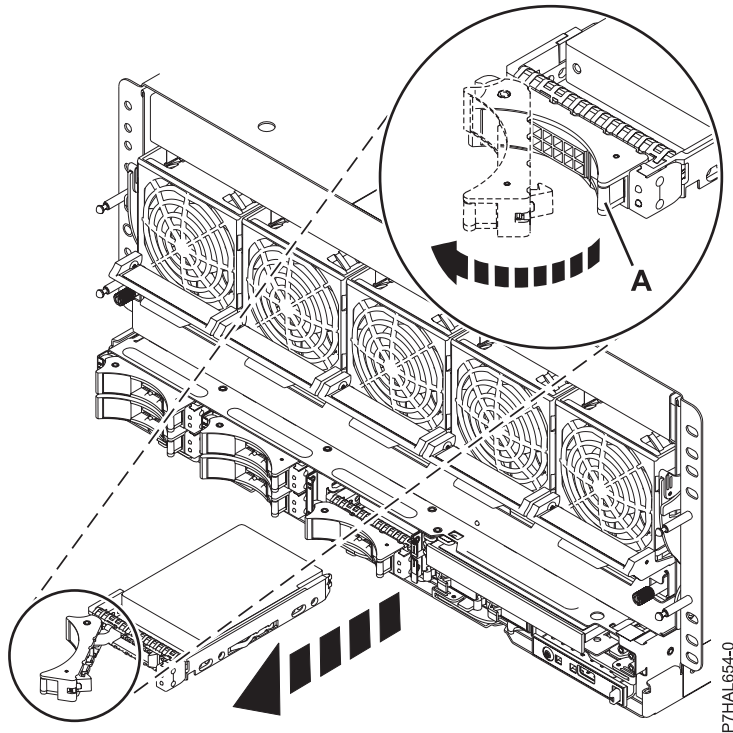

Figure 33. Removing a disk drive from the system
1. Unlock the drive handle by squeezing it and pulling it out toward you, as shown in Figure 33 on page 52. If the handle is not all the way out, the disk drive or solid-state drive cannot slide out of the system or out of the expansion unit.